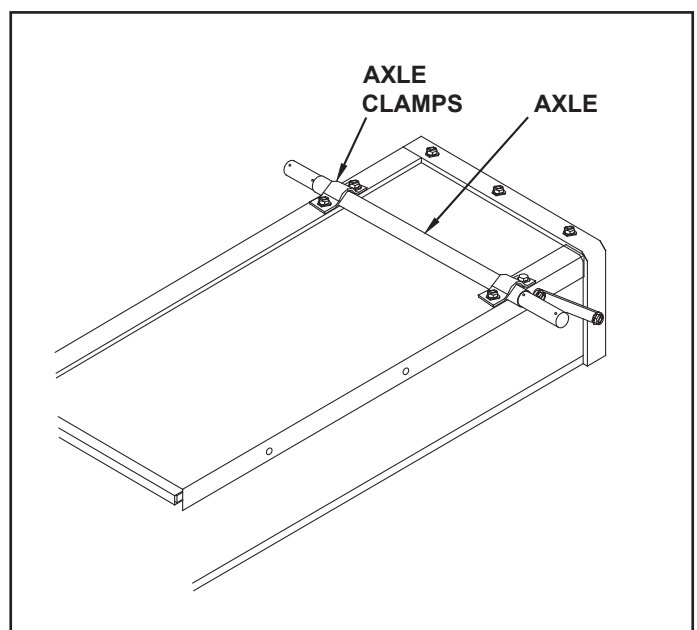

FIGURE 12
19. Lay the cart upside down. Slide the axle through the axle clamps. See figure 12.